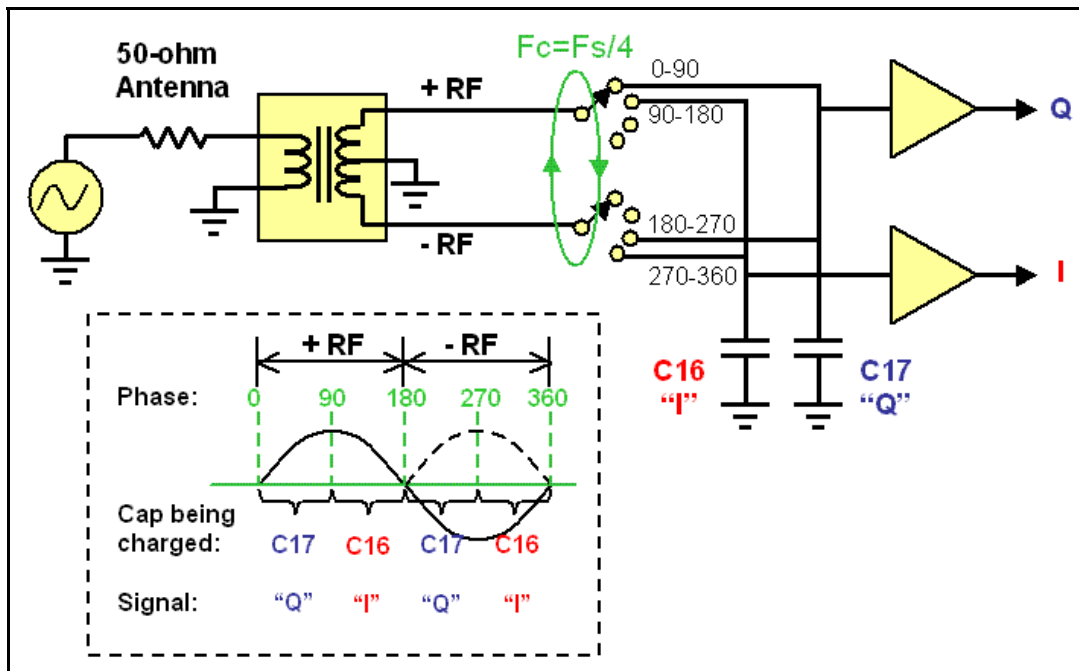

Figure 4 – Single Balanced Quadrature Sampling Detector (QSD)
Figure 4 illustrates a simplified version of the detector. It may be logically thought of as a dual-pole rotary switch rotating at the carrier frequency rate of 7.056 MHz. Integrating capacitors C16 and C17 each sample the RF signal for 50% of the carrier period – C17 integrates the RF '+' signal from 0°-90° and 180°-270° to form the quadrature (Q) component,
Integrated circuit U2 contains two high-speed flip-flops and is used to produce the core timing signals required for the QSD operation. The first flip-flop divides the reference clock signal in half, as illustrated in the second waveform of Figure 4 (above), to produce a 14.112 MHz square wave. This signal is presented to one pair of QSD switches in U3. This same 14.112 MHz clock is also divided in half again by the second flip-flop to produce a 7.056 MHz clock, which is presented to the other pair of QSD switches in U3. These clocks drive the four switches to perform the four-quadrant RF signal integration illustrated in Figure 4.